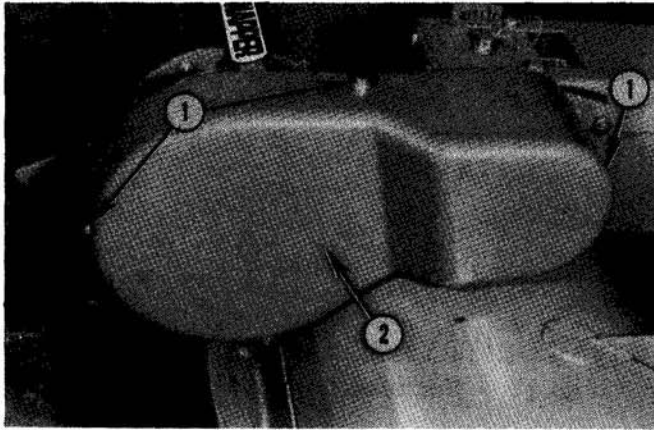

Fig. 11 — Replacing External Chain
1. Remove chain guard by removing three bolts, Fig. 11.
1. Remove chain guard, Fig. 11.